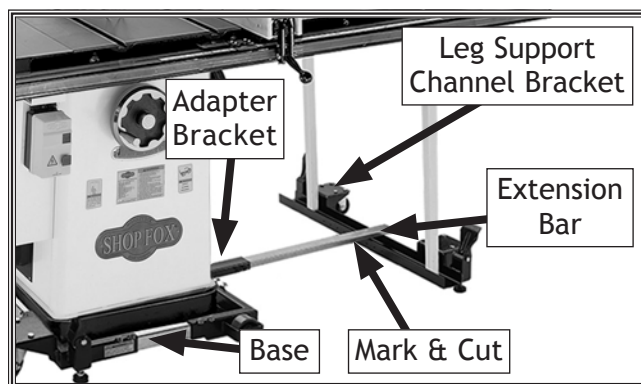

Figure 9. Extension bar and bracket placed between base and leg support channel bracket.
9. Slide extension bar into adapter bracket and lay it towards (or over the top of) leg support channel bracket to determine if you need to cut the extension bar (see Figure 9).